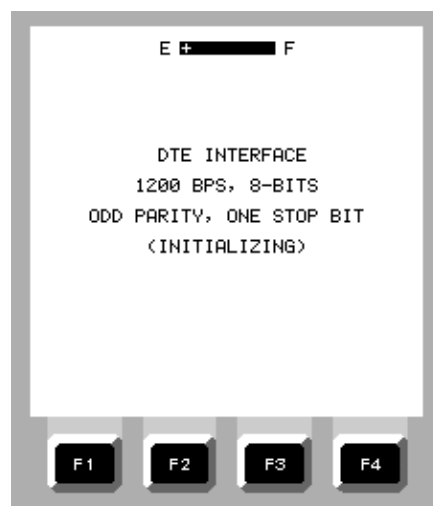

Figure 2-118. CRAFT INTERFACE ACCESS Screen
- c. CRAFT INTERFACE ACCESS - If Option 10 (Terminal Emulation) is installed in the test set, the craft interface, as specified in GR-303-CORE is enabled using the test set RS-232 port (Figure 2-118). This menu selection is not available without option 10.
If Option 10 (Terminal Emulation) is installed, CRAFT INTERFACE ACCESS can be selected on the GR-303 TEST ACCESS menu, allowing the EZ-TESTER DS to perform terminal emulation functions. The test set automatically sets the bit rate, word length, parity and stop bit. Figure 2-118 illustrates the CRAFT INTERFACE ACCESS screen. Refer to the EZ-TESTER DS Operating Manual for a review of terminal emulation operations.